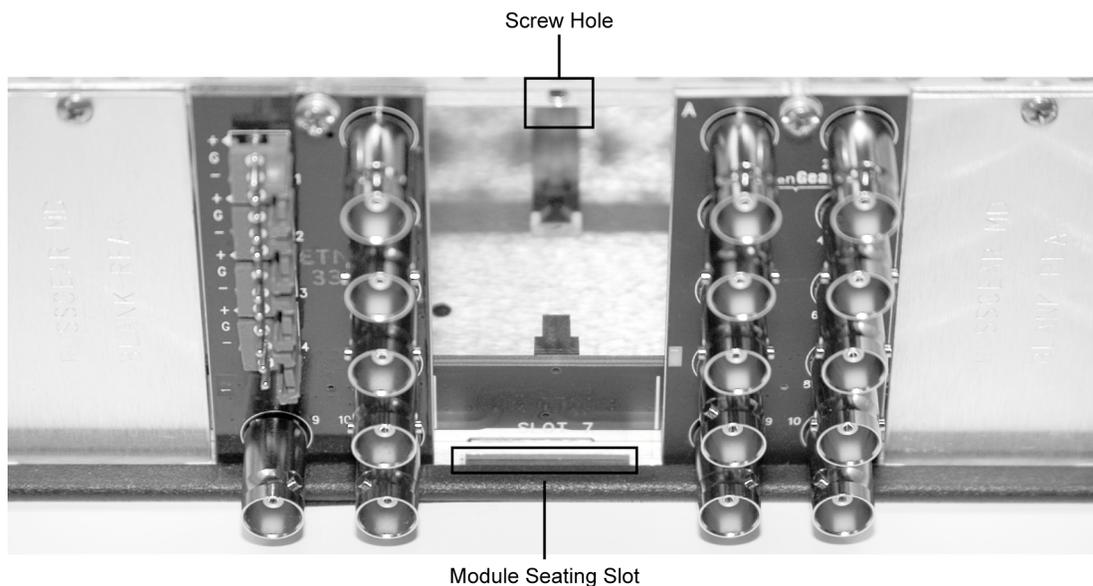

Figure 2.1 *Rear Module Installation in a 8300 Series Frame (9275 not shown)*
3. Install the bottom of the Rear Module in the **Module Seating Slot** at the base of the frame’s back plane. (**Figure 2.1**)